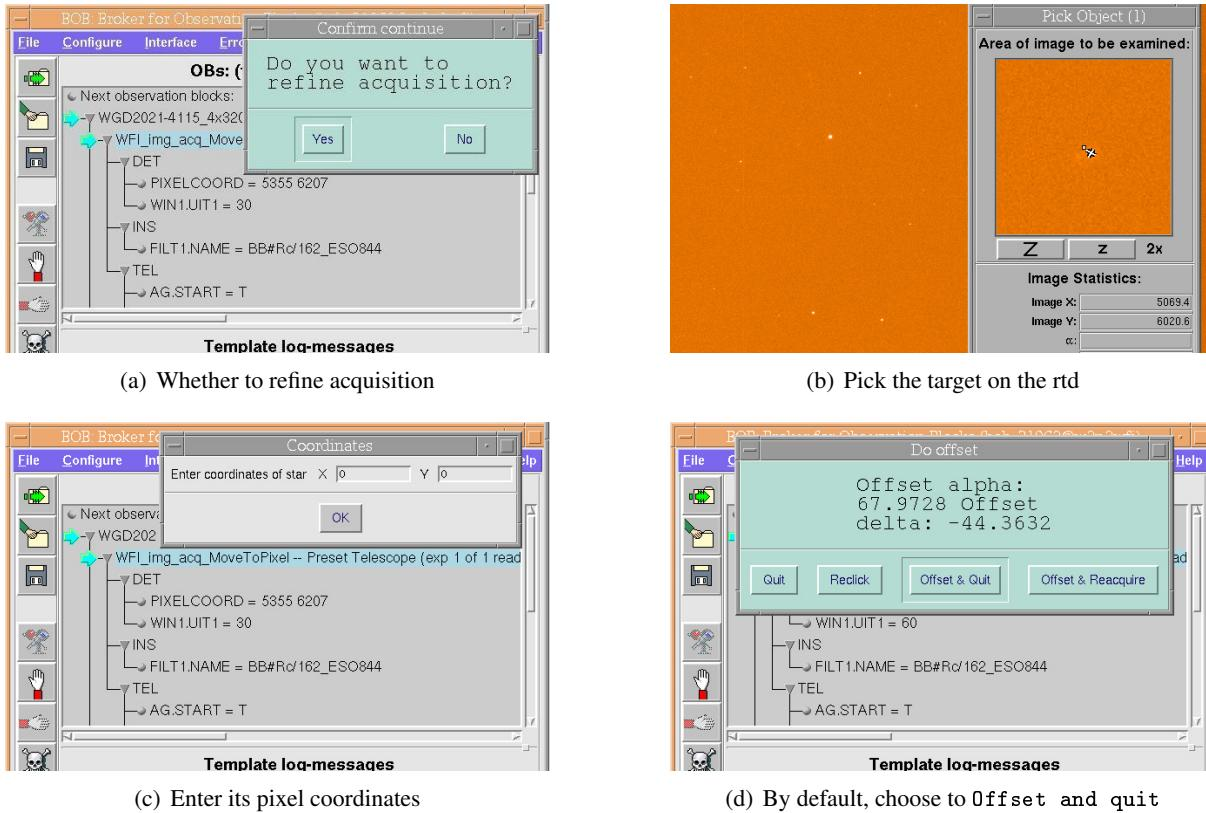

Figure 6.1: Refining the WFI acquisition for the WFI_img_acq_Move template.
- B. Accept or decline refining by answering the pop-up Confirm continue (Fig. 6.1(a), p. 56)
- C. Pick target (Fig. 6.1(b), p. 56)
- D. Enter coordinates on pop-up Coordinates (Fig. 6.1(c), p. 56)
- F. Examine the offset proposition on pop-up Do offset (Fig. 6.1(d), p. 56)
- G. Answer pop-up Do offset (Fig. 6.1(d), p. 56)